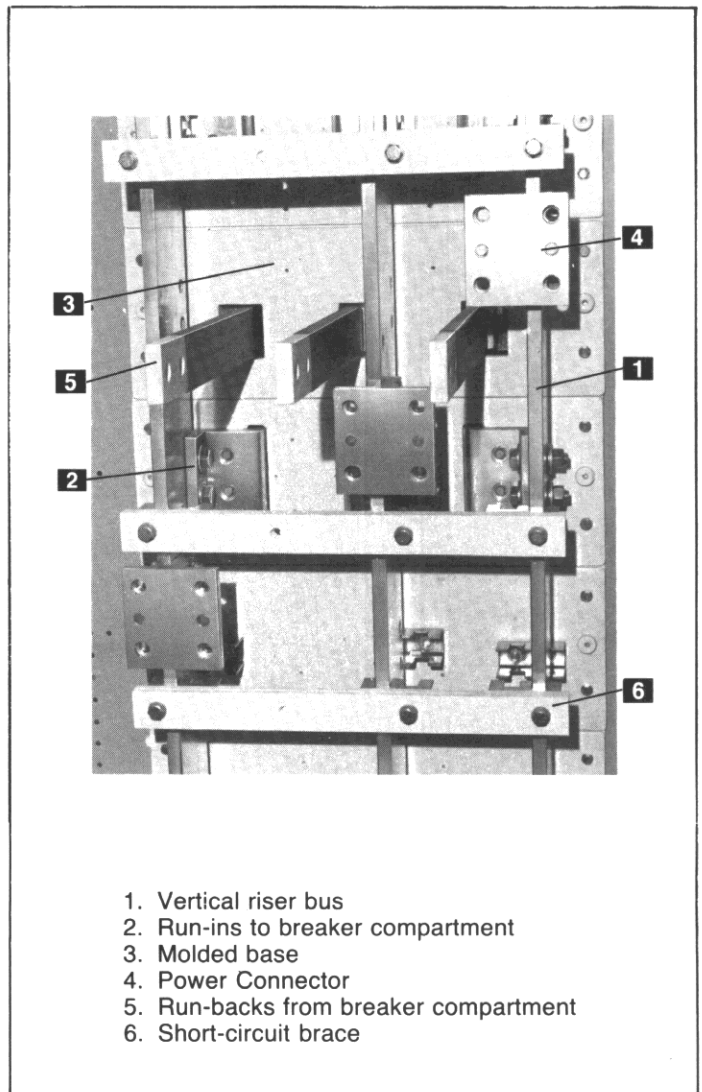

Fig. 3-22. Bus construction
The bus area, Fig. 3-22, contains the main horizontal bus and vertical riser bus bars (1) for the particular section. The vertical bus bars are supported at the breaker run-ins (2) which are bolted to the molded bases (3) that form the rear wall of the breaker compartment. The horizontal bus bars are supported by the power connectors (4) which are bolted (copper) or welded (aluminum) to the vertical bus bars. All bolted supports and connections are accessible from the rear for maintenance. The bus area is fully isolated from the breaker, instrument and auxiliary compartments by the molded bases or glass polyester sheet.